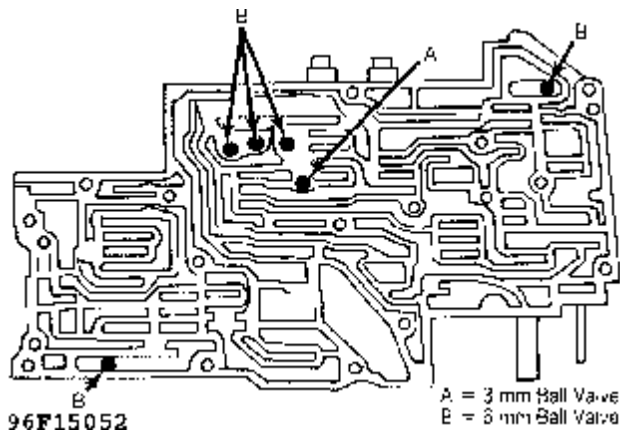

Fig. 15: Main Valve Body Check Ball Locations
1) Remove screws attaching transfer plate to main valve body. Lift transfer plate and separator plate from main valve body. Remove main valve body check balls from passages in valve body. See Fig. 15.
- 2) Ensure all check balls are installed in correct valve body passages. Check ball "A" is .118" (3 mm) in diameter. All other check balls are .236" (6 mm) in diameter. See Fig. 15. Install screws attaching transfer plate to main valve body, and tighten from center outward. DO NOT overtighten.